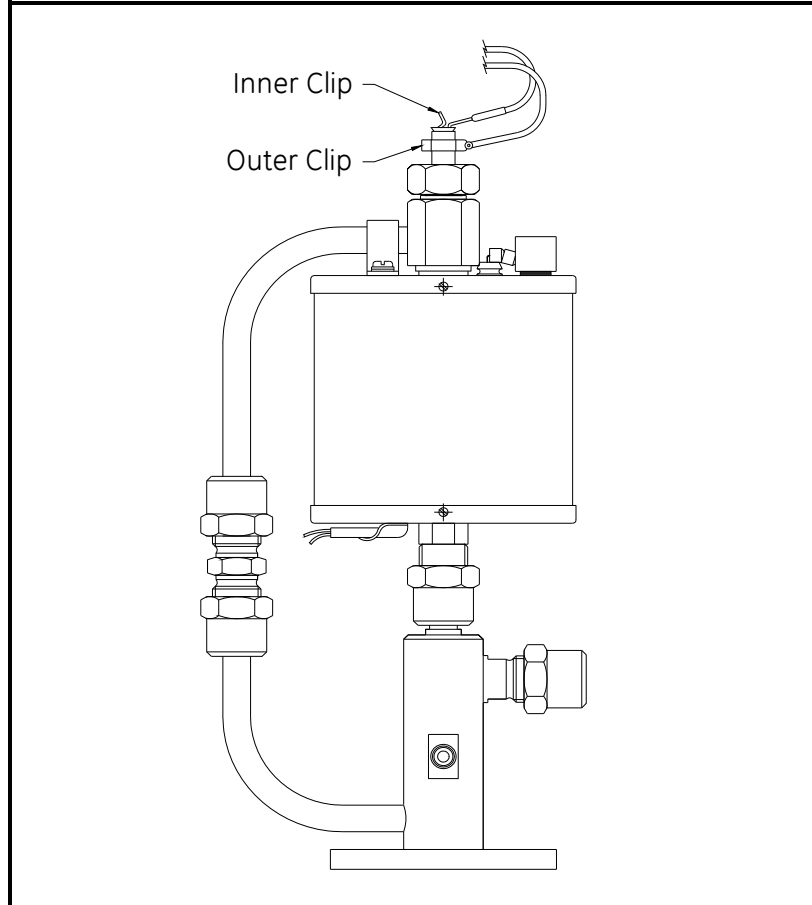

Figure 27: Oxygen Sensor Clips
2. Locate the oxygen sensor clips (see Figure 27 on page 55, which shows the sample system with the analyzer enclosure removed) and short them together with a jumper. The oxygen display should read 20.9% (or 0 mV by pressing the mV key).
2. Using a digital multimeter, measure the resistance between the two oxygen sensor clips. Place the positive lead of the multimeter on the inner clip (the clip inside the base of the oxygen sensor) as close to the oxygen sensor as possible without touching it. Place the negative lead of the multimeter on the outer clip (the clip around the base of the oxygen sensor). See Figure 27 on page 55 for the location of the clips.
3. If the measurement indicates an open loop (OL), adjust the clips to make certain they are making good contact with the oxygen sensor and take another reading. If an open loop is still measured, the oxygen sensor is defective and must be replaced.